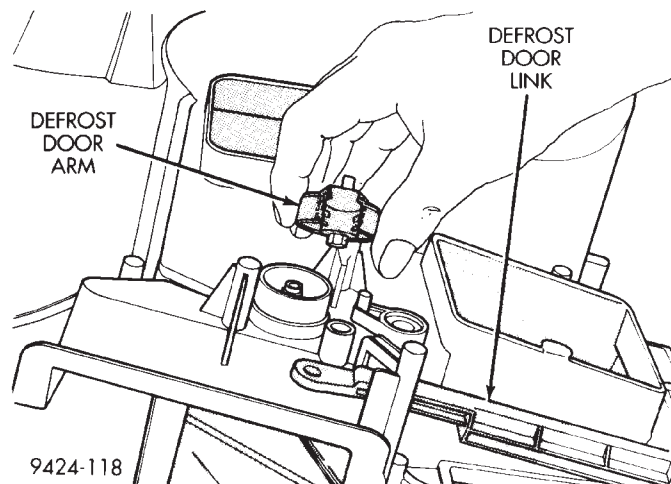

Fig. 80 Defrost Door Arm
(24) Remove defrost door arm from lower housing (Fig. 80).